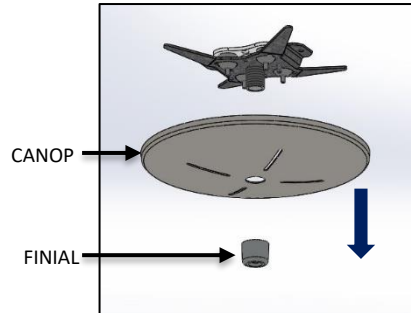
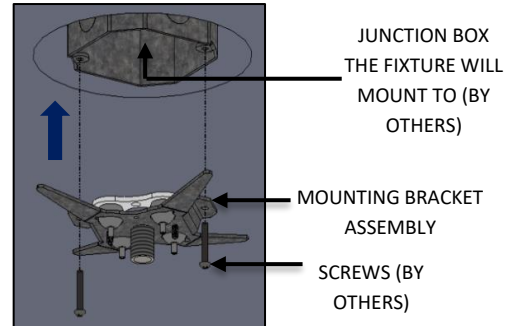

FIG. 15 – CANOPY DIS-ASSEMBLY
FIG. 16 – MOUNTING BRACKET ASSEMBLY INSTALLATION
1. Loosen the CANOPY FINIAL and remove CANOPY as shown in FIG. 15. Assemble the MOUNTING BRACKET ASSEMBLY to the JUNCTION BOX the fixture will mount to (by others) with screws (by others) as shown in FIG. 16 below.